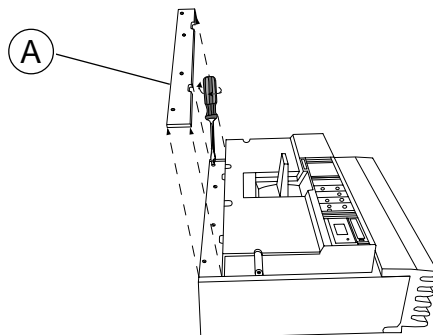

Figure 32: Replacing Lug Covers
6. Replace circuit breaker lug cover (A, Fig. 32).